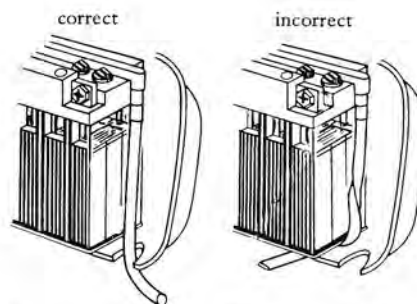

Fig. 13 Installation of battery with vent-pipe
- e. For a battery with vinyl ventilation pipe, take care if the pipe is not depressed by a battery or pinched as shown in Fig. 13. In that case, the inside pressure of the battery is increased by gases which generate on charging, causing the explosion of container.